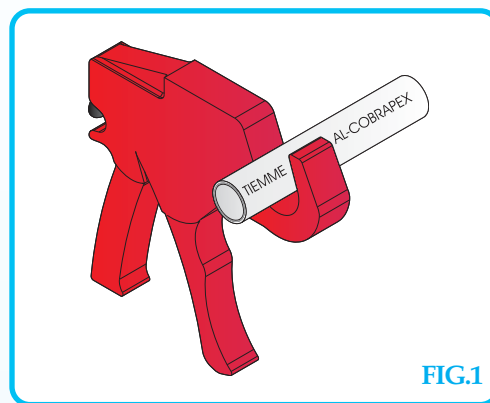

FIG.1
- Cut the tube to the desired size by using a pipe-cutter, making sure that the cut is perpendicular to tube axis (FIG. 1)